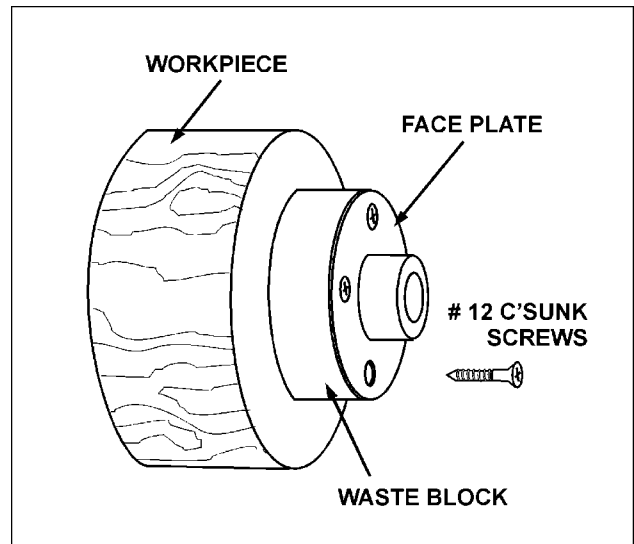

Fig. 21
Use of a face plate is the most common method for holding a block of wood for turning bowls, and plates, see Figure 21.
3. Using the face plate as a template, mark the location of the mounting holes, and drill pilot holes of the appropriate size. If the mounting screws on the face plate interfere with the workpiece, a waste block can be mounted to the face plate and then the waste block mounted to the workpiece by gluing or screwing, see Figure 21.